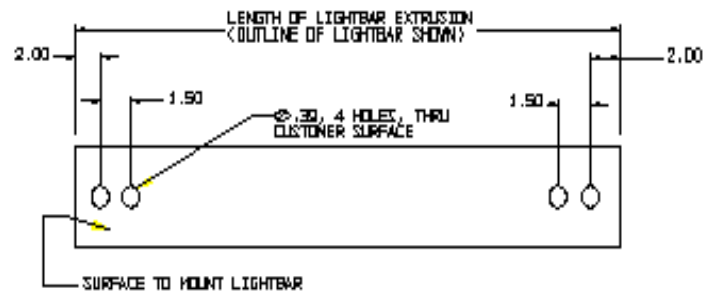

FIGURE 1
Check to see that all components shown in Figures 1 and 2 are included. Check your packing lists carefully.
- G. Measure in 1.50 inches from each previously marked hole and mark the location for the second hole. Repeat for the opposite end. Ref. Figure 1